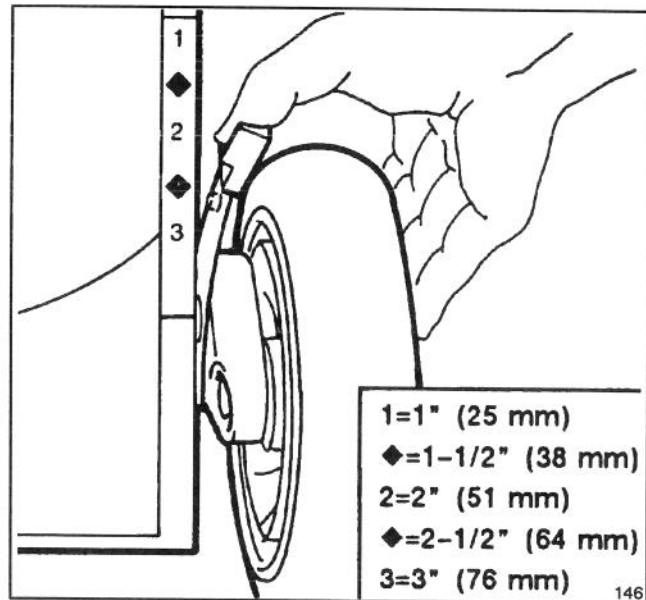

Figure 15
2. For easier adjustment, lift housing up so wheel is off ground. Do not place hands under the deck to lift housing. Squeeze adjusting lever toward wheel and move to desired setting (Fig. 15). Assure pin on adjusting lever engages notch in housing. Adjust all wheels to the same setting.